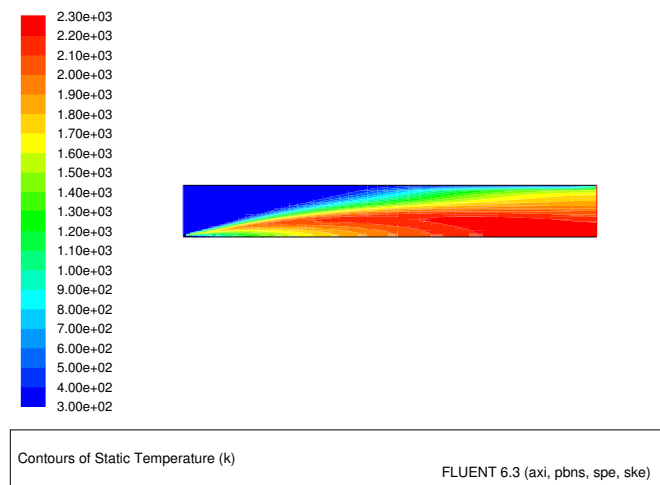

Figure 13.4: Contours of Temperature: Variable C_p
1. Display filled contours of temperature (Figure 13.4).